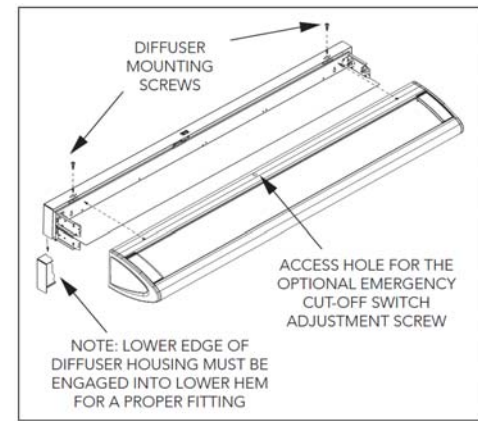

Figure 7
4. Pick up the Housing. Orient the Housing with the mounting screw holes facing upward and the switch oriented downward. (See Figure 7)
2. Tuck the wiring behind the Reflector Assembly's vertical plate and then locate the Reflector Assembly's keyholes slots. Position the keyhole slots onto the screws in the mounting brackets on the Backplate. (See Figure 7.)